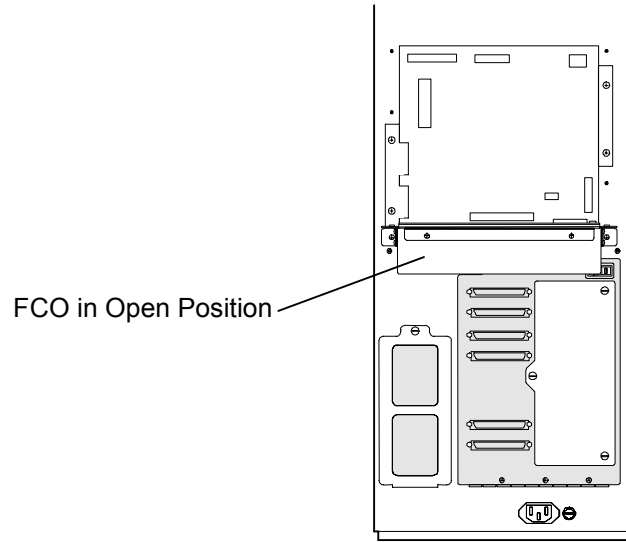

Figure 6-11 Fibre Channel Option in the Open Position
6. Loosen the two top captive screws on the FCO that were tightened in step number four. Carefully guide the FCO backwards as it pivots on the hinges and comes to its open position. See Figure 6-11.